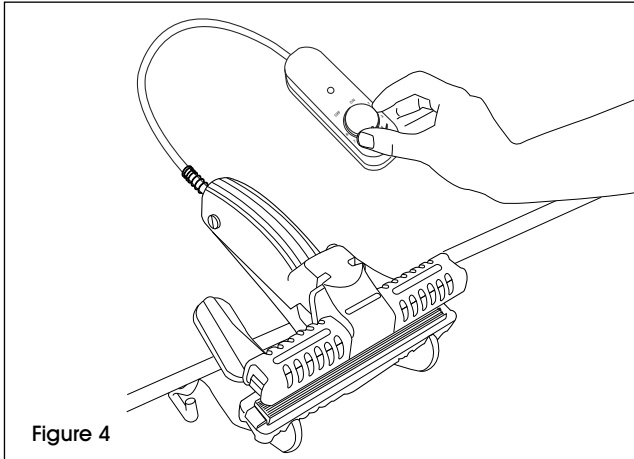

Figure 4
1. Turn the unit on by plugging it in and adjusting the temperature dial. See Recommended Settings table (page 3) to determine optimal temperature. (See Figure 4)